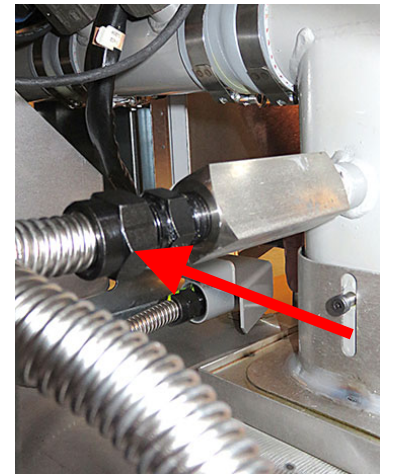

Figure 30
35. Attach the long flexline from the dispose assembly to the check valve on the rear of the drain spout installed in step 16 (see Figure 30).